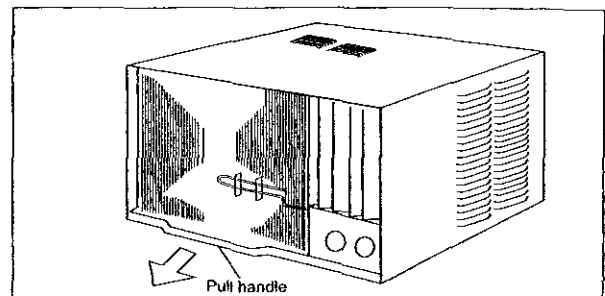

Fig 6
- C Grasp the pull panel at the front of the slide-out chassis and carefully slide the air conditioner out of the cabinet (Fig 6)